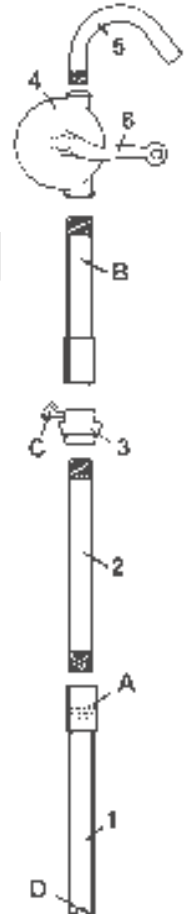

fig. 1
- 3.2. Assemble suction tubes as in fig. 1 items 1 and 2, (with non-return valve "A" sitting in the head of tube 1). Depending on the depth of the drum, assemble optional extension tube "B".